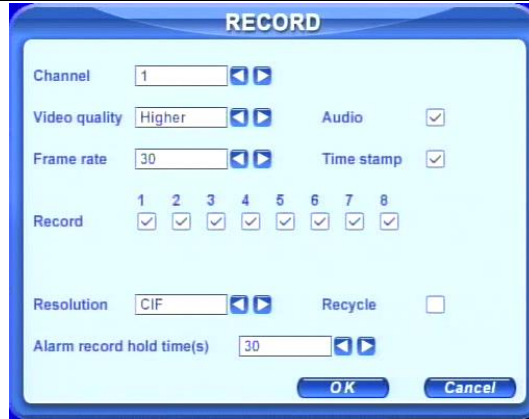

Fig 3.7 Record Setup
STEP1 Enter RECORD configuration, referring to Fig 3.7 Record Setup. Select cameras.